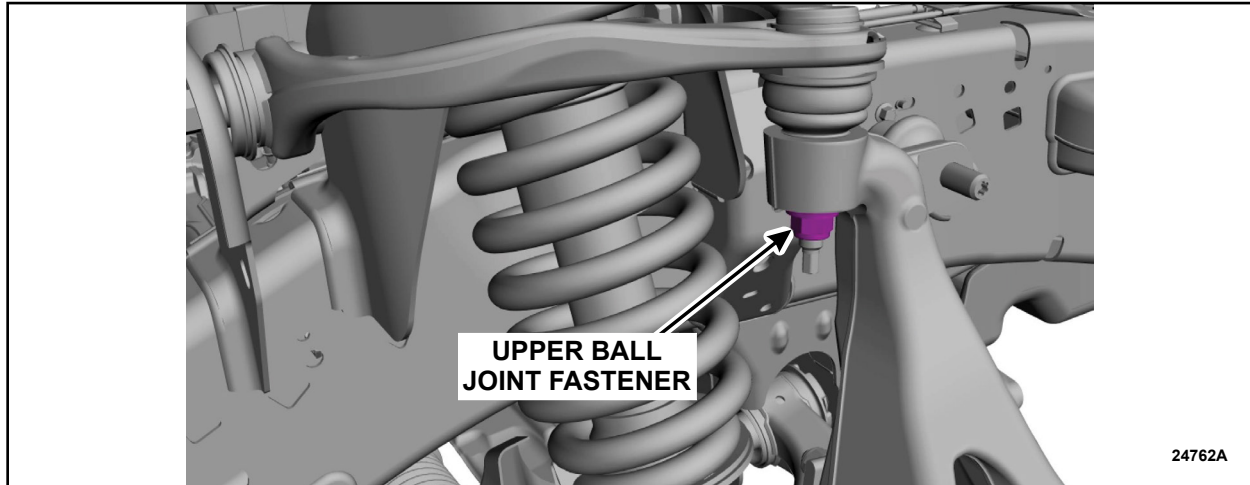

FIGURE 1
2. On both sides of the vehicle, check the torque of the upper ball joint fastener. See Figure 1.